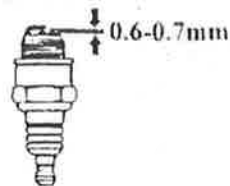

Fig. 18
3. Measure the spark plug clearance with a feeler. The clearance should be 0.6~0.7mm (Fig. 18). If adjustment is necessary, bend the side electrode carefully.